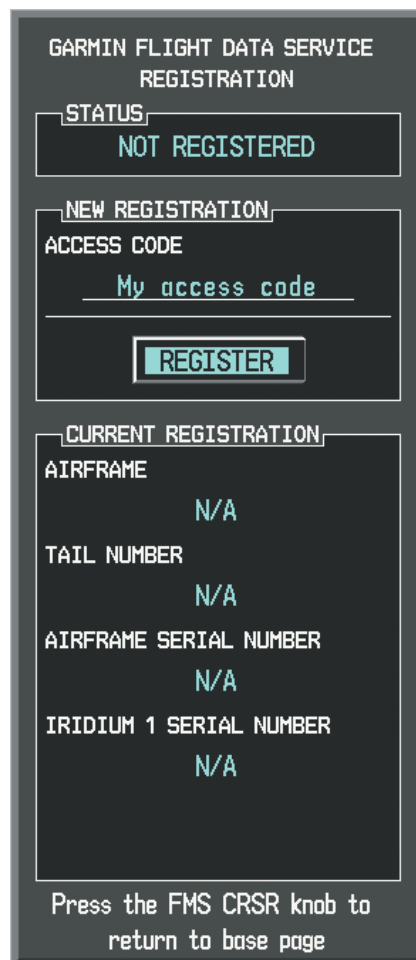

Figure 6-55 Enter Access Code
- 5) Press the **ENT** Key. The Garmin Flight Data Service Registration window is displayed as shown in Figure 6-55.
- 7) Press the **ENT** Key. 'REGISTER' will now be highlighted as in Figure 6-55.